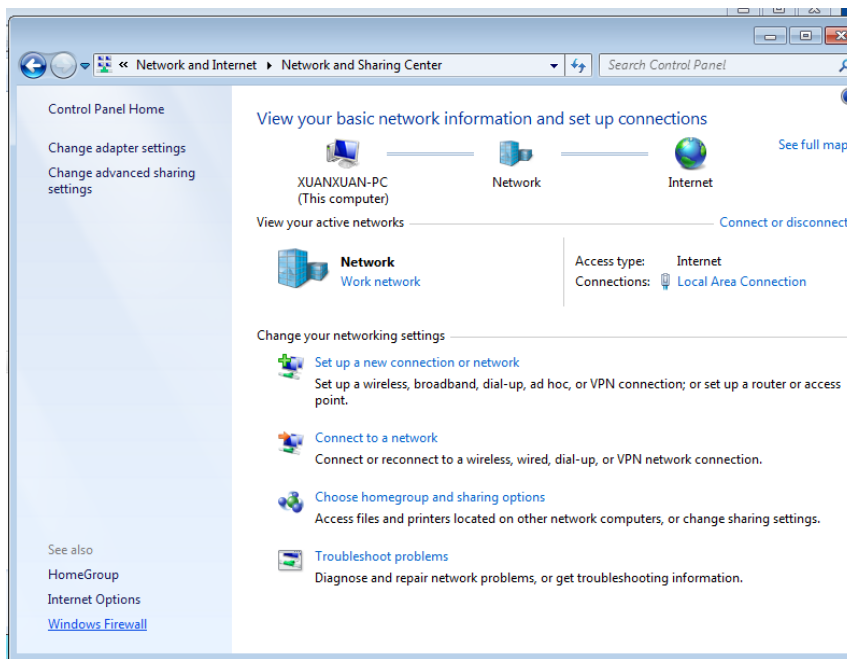

Fig.1.18 Network and Sharing Center
(3)Click “Windows Firewall” (see Fig.1.18).